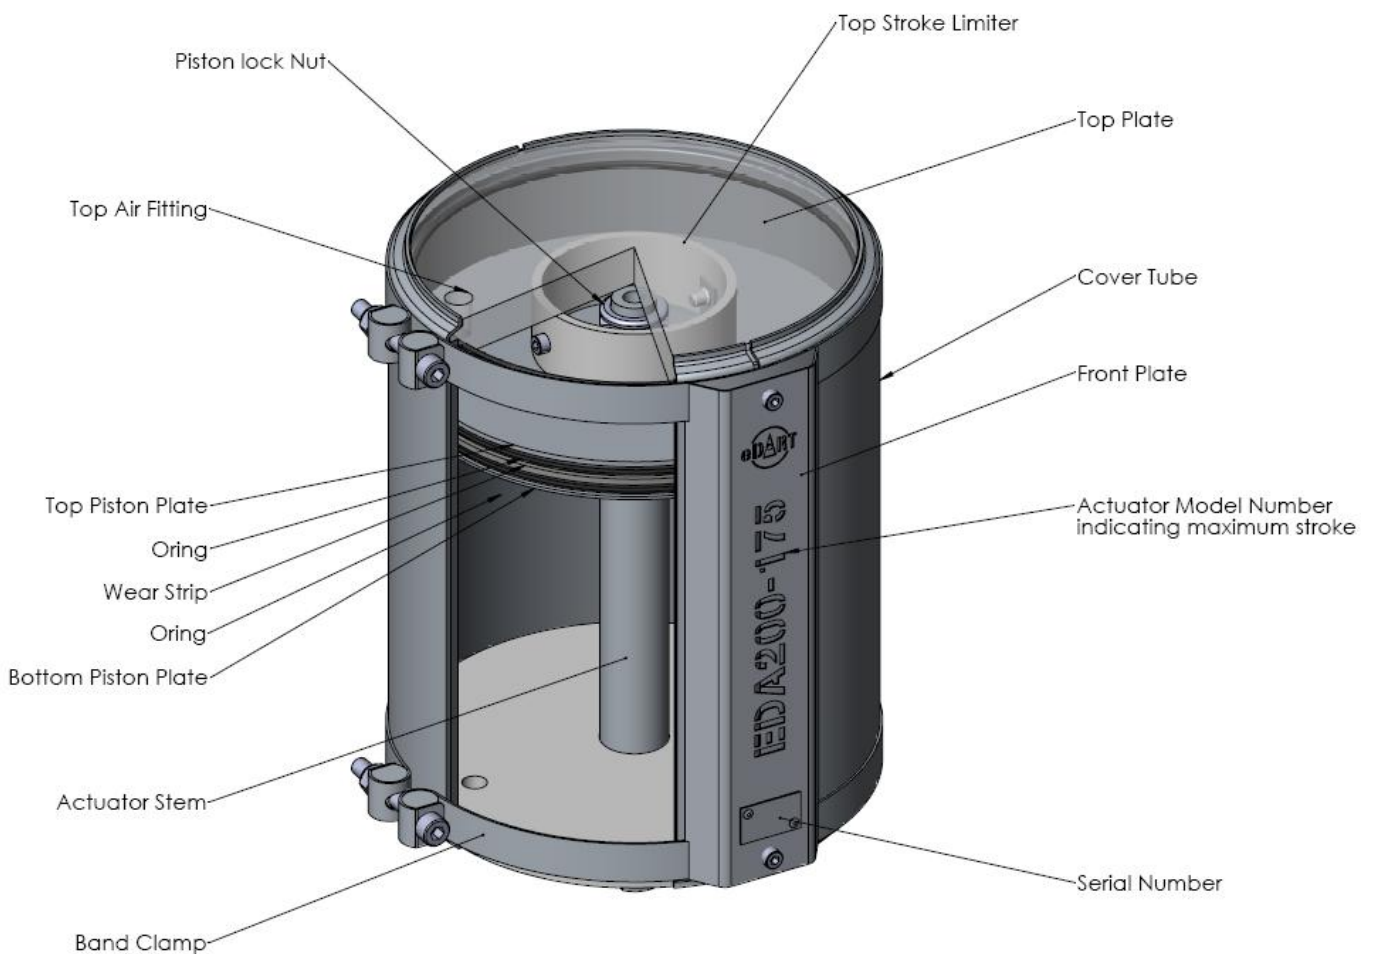

Figure 1: A view of the assembly with sections of the top plate, cover tube and cylinder tube removed so as to show the piston sub-assembly.
7. Remove the front plate by unscrewing the two capscrews holding it in position (Figure 1).
16. Fit the top plate Oring into the groove of the top plate and apply a light smear of grease. Fit plate onto the cylinder tube, ensure that the top and bottom air fittings are aligned as shown in Figure 1. Slide the recessed part of the top plate into the cylinder tube until the lip of the top plate rests on the cylinder tube. Make sure not to damage the Oring.
17. Line up the halves of the cover tube, band clamps, front plate, rotate the top and bottom plates so the air fittings are aligned as shown in Figure 1. Tighten Band Clamp
5. Line up the halves of the cover tube, band clamps, front plate, ensure that the top and bottom plates so the air fittings are aligned as suggested in Figure 1.